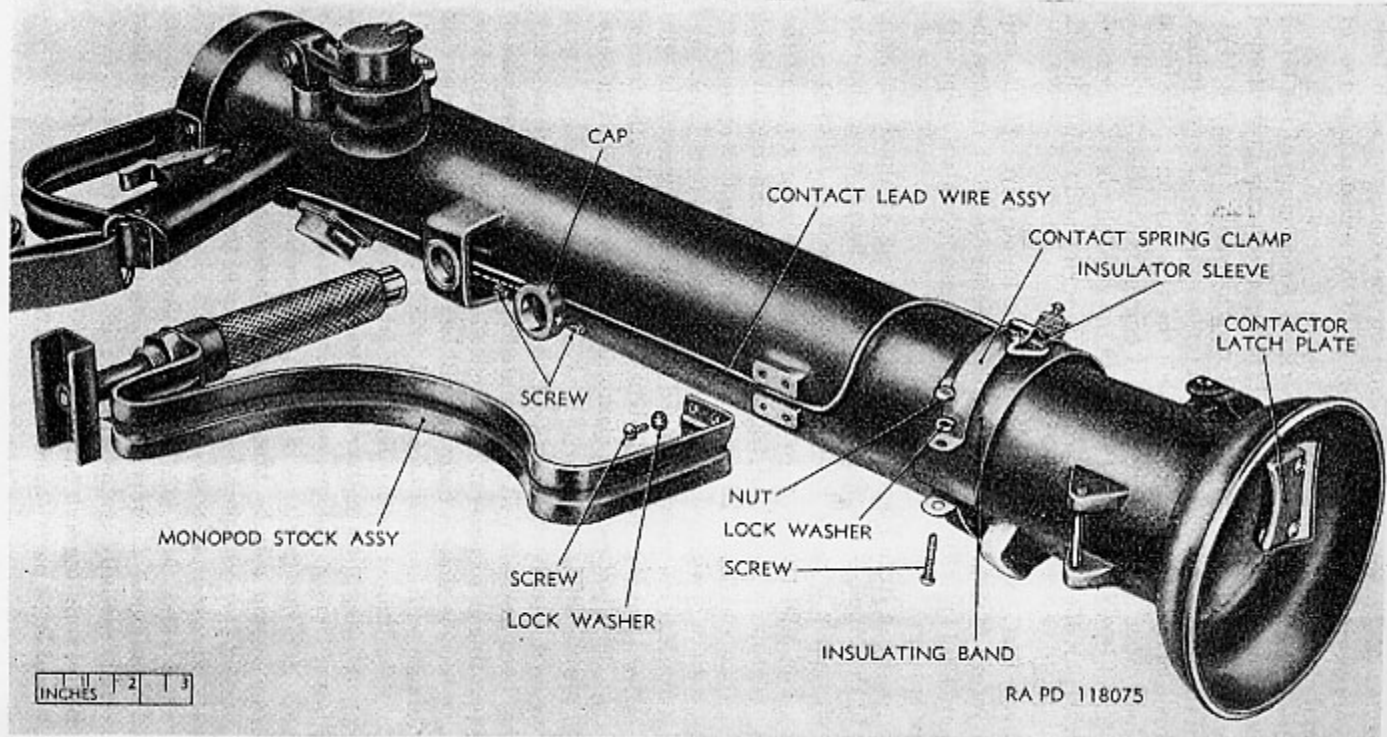

Figure 28. Insulating band and insulator sleeve exposed for inspection.
- (1) Access to the insulating band (under the clamp) and to the insulator sleeve (on the end of the aluminum tube of the contact lead wire) can be obtained, for the purposes of inspection, by simply loosening the clamp. Remove the screw, nut, and lock washer from the clamp (fig. 28).
- (2) To install the contact spring clamp, wrap the insulating band around the barrel and pull the clamp over it in its proper position. See that the clamp is approximately centered on the insulating band and that the clamp is faced around so that the small loop fits over the insulator sleeve on the aluminum tube of the contact lead wire. Be sure that the insulator sleeve completely separates the clamp from the tube of the contact lead wire. Install the screw, nut, and lock washer in the clamp and tighten them.